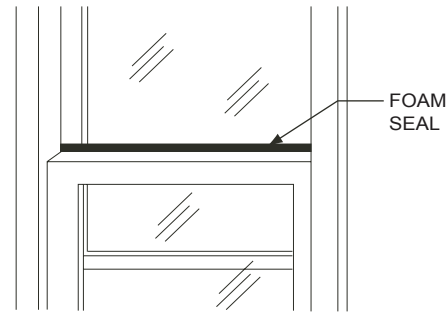

FIGURE 16 — SASH FOAM LOCATION
21. Cut foam (provided) to fit the length of the window. Insert the foam between the top of the lower window sash and the window panes of the upper window. See Fig. 16. Make sure there is a firm fit to prevent air leakage between the windows. This also prevents insects from entering through the window.